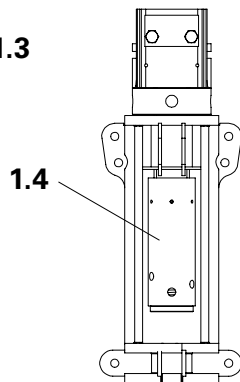

Fig. 3
2. Turn the spindle sleeve (1.4) with mounting shaft clockwise as far as possible. (Fig. 3)